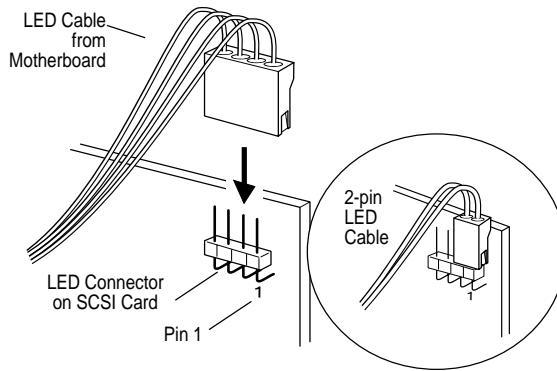

Figure 2. Connecting the LED Cable to the LED Connector
*(Optional feature)* Most computers have an LED disk activity light on the front panel. If you choose to disconnect the cable from the LED connector on the motherboard and connect it to the LED connector on the SCSI card, the LED on the front panel of the computer will light whenever there is activity on the SCSI bus (see Figure 2).